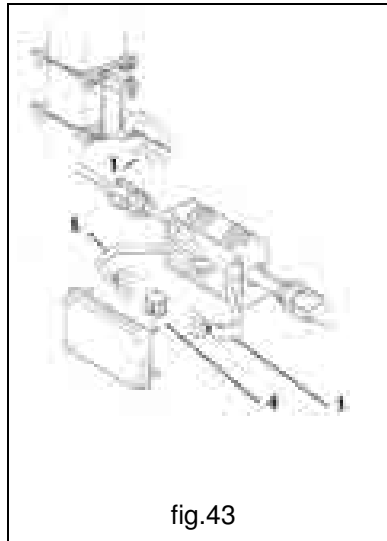

fig.43
1. Connect the electric cable **1** to the terminals **4** contained in the connector block, to be applied to the column or load-bearing wall and to which the cable of line **L** coming from the power supply will be connected (fig.43).